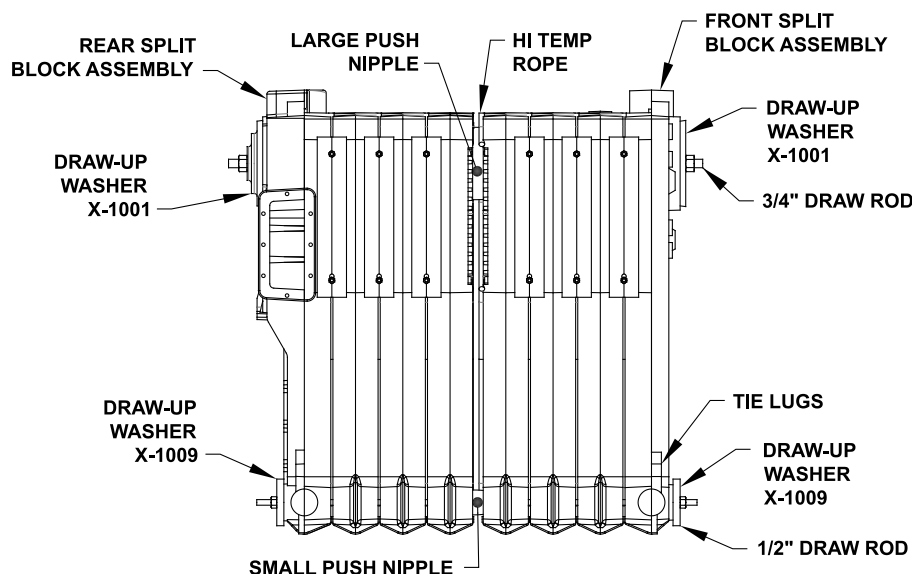

Figure 2.1: Split Block Assembly
3. Place each block of sections on the foundation with nipple ports facing each other. Refer to Figure 2.1.
9. Insert draw rods through the nipple ports. Make certain that the 3/4" draw rod is used on the large nipple. Pay particular attention to the placement of the draw washers. See Figure 2.1.